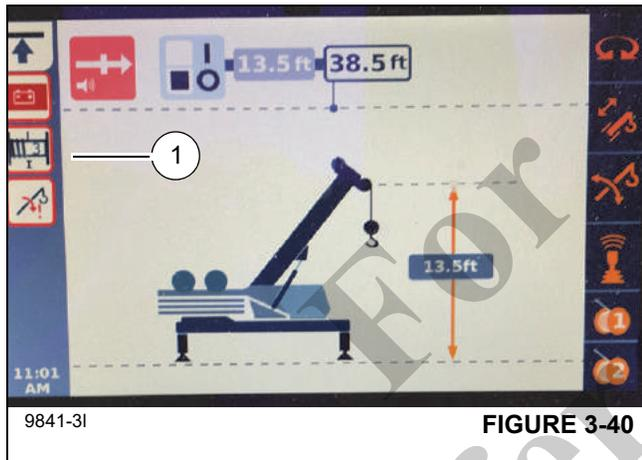

FIGURE 3-40
In the Warning Message/Error Message Display area (1) (Figure 3-40) error message icons will appear on the left side of the display with a red border around the icon. The icon will disappear when the error is resolved.
The Information Group Menu is made up of the Cranes Operating Hours, the Software Version, and Legal Notice Functions. Refer to Figure 3-40.